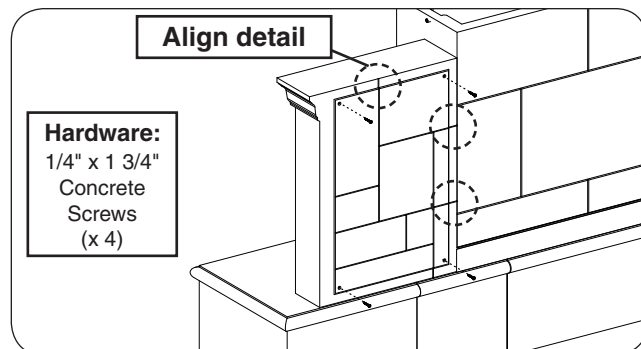

Fig. 20-2 Assemble rear side-wall (skip if n/a)
2. Each rear side-wall piece is marked to align the detail. Place the correct rear side-wall piece in position against the rear of the main piece, then fasten using a Phillips screwdriver and the supplied concrete screws (see Fig. 20-2).